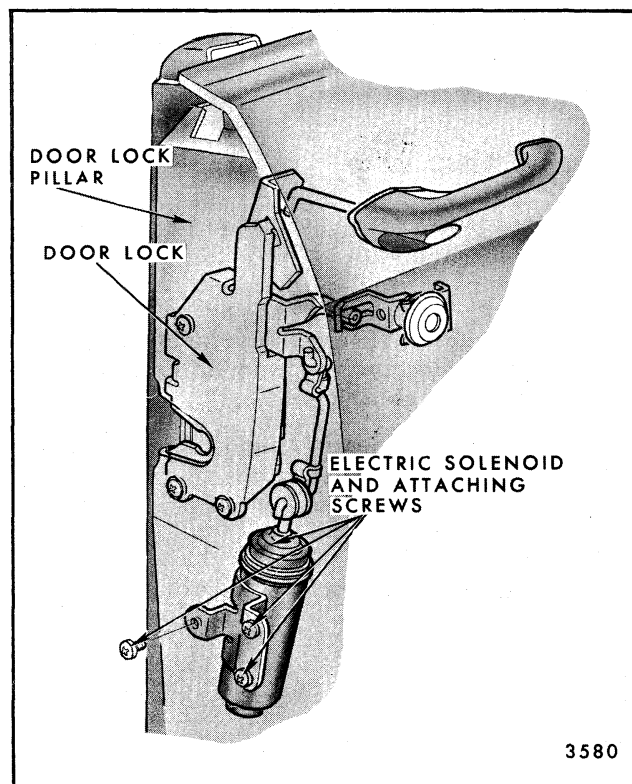

Fig. 5-37-Front Door Lock Electric Solenoid Installation
2. On front doors, remove solenoid attaching screws located on lock pillar or inner panel (Fig. 5-37). Disconnect rod and wire harness. Remove solenoid through access hole.